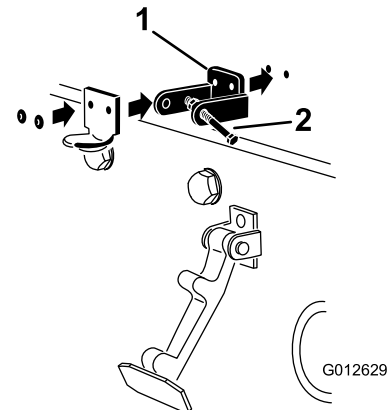

Figure 7
4. While aligning the mounting holes, position the lock bracket and the hood-latch bracket onto the hood (Figure 7).
6. Rivet the brackets and the washers to the hood (Figure 7).